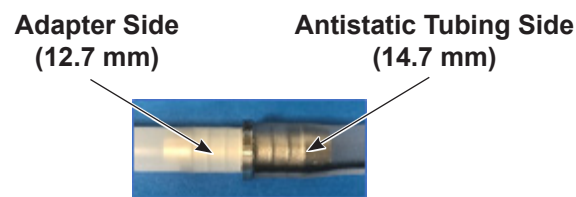

Figure 10 Fitting Adapter Installation
See Figure 10.
1. See Figure 10. Connect another piece of the antistatic tubing to the 14.7 mm side of the adapter shipped with the drum unloader.